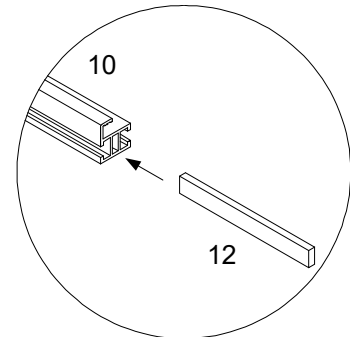

Fig. 8
7. Now fix the upper mounting profile (10) with the clamps (7), carriage-bolts M8 (9) and nuts (8) into the slot of the mounting rail (5).
8. Check the tightness of all clamps (7) and screws (3, 9).
9. In the case of several mounting profiles (10) have to be connected together, the connecting piece (12) has to be inserted into the corresponding guiding of the profile (see Fig. 8).